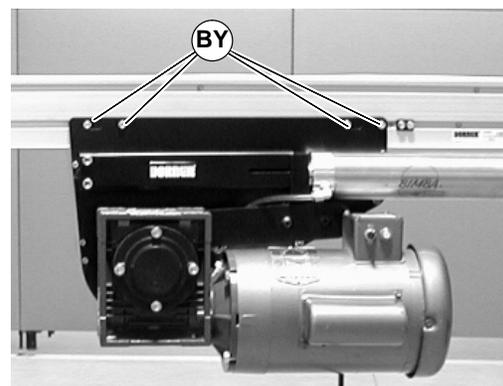

Figure 50
2. If necessary, adjust the tracking cam: loosen the center drive fastening screws (BY of Figure 50) on the side of center drive to be tracked.
4. Tighten the center drive fastening screws (BY of Figure 50) to 146 in-lbs (16.5 N-m).